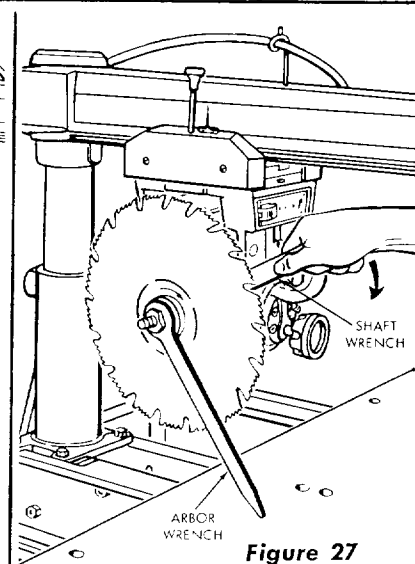

Figure 27
- (2) Install the saw blade, outer collar and shaft nut. Tighten the nut as shown in figure 27.